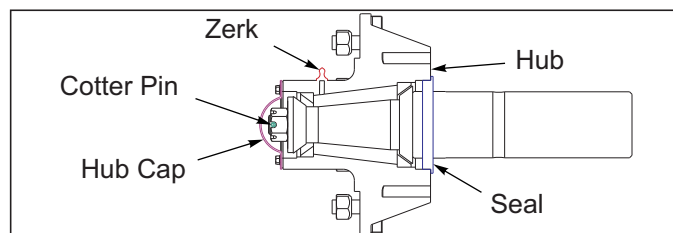

Figure 5-2: NHub Assembly
12. Through the zerk, give 6-8 more pumps of grease. It is not necessary to purge grease through a new seal, as they are filled See Figure 5-2